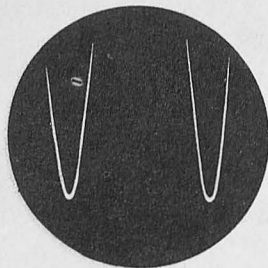

Figure 4-8. Adjustment Pattern
(2) Figure 4-8 shows a correct expansion of the pattern achieved by use of the Y GAIN control.